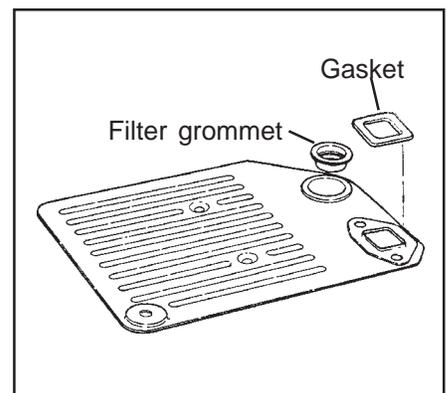

Figure 2
**STEP 20.** Make sure rubber grommet is installed in the filter. Install the cork filter gasket on filter using a dab of grease to hold it in place (See Fig. 2.). Coat the filter grommet with clean ATF and install filter on valve body. Push the filter straight on to avoid damaging the rubber grommet. Install (3) M6x16 (0.63") bolts and torque to **80-100 lb.in. (9-11 Nm)**.